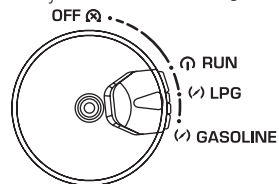

Fig. 10
5. Turn switch to LPG position (fig. 10).